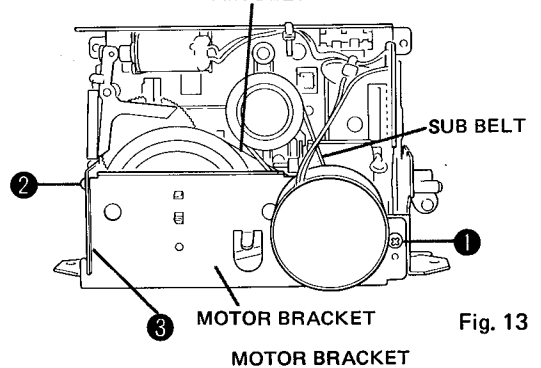

Fig. 13
3. Remove the screw 1 in Fig. 13 and remove actuators 2 and 3 when pulling down the motor bracket and then remove the motor bracket and remove main and sub belts.